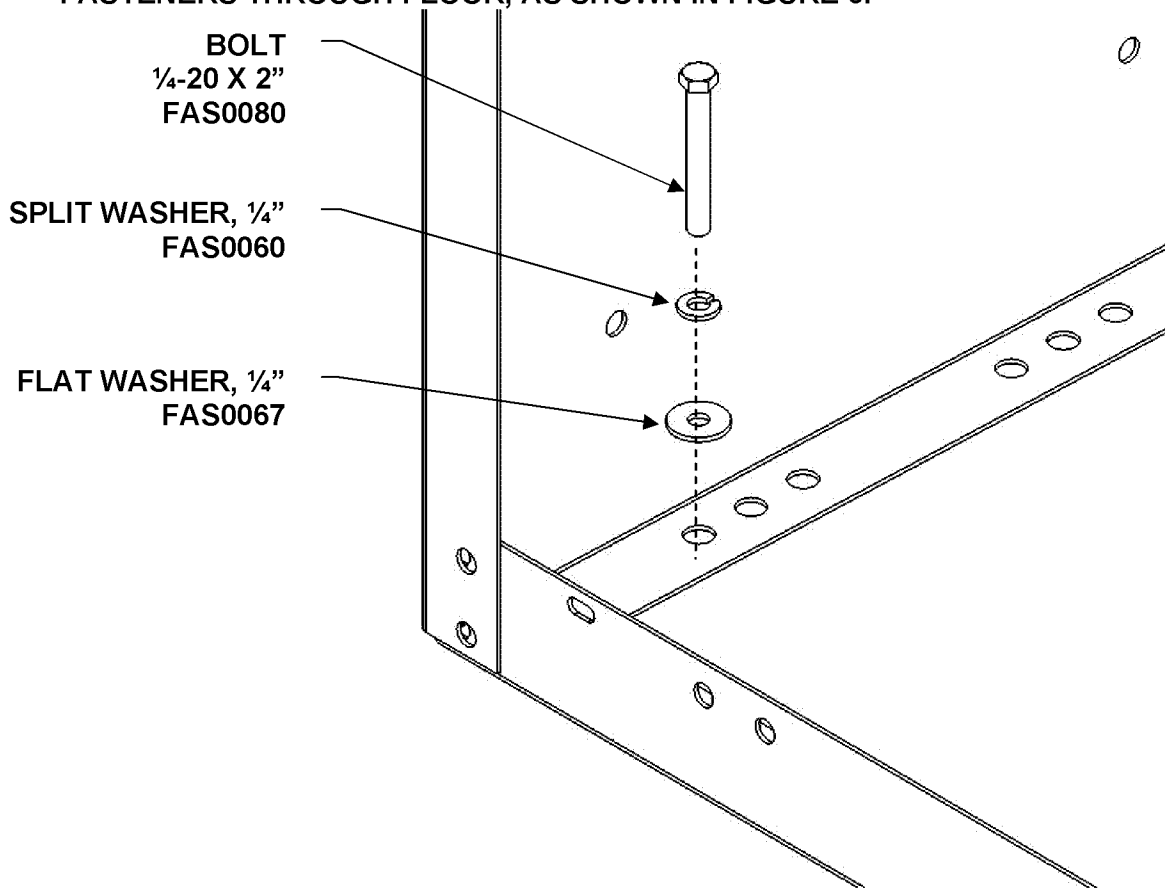

FIGURE 6. FLOOR MOUNTING FASTENERS.
- 1) WITH PRODUCT SECURELY MOUNTED TO WALL, AS ILLUSTRATED IN STEP 04, INSERT FASTENERS THROUGH FLOOR, AS SHOWN IN FIGURE 6.
- 5) INSERT FASTENERS THROUGH FLOOR AS SHOWN PREVIOUSLY IN FIGURE 6.